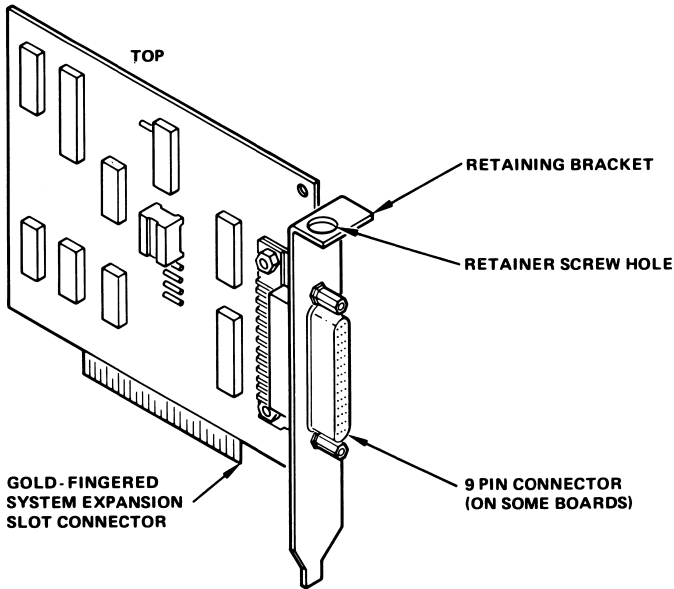

Figure 5-12. Side View of an Interface Card
3. The interface card has a retaining bracket similar to the expansion slot cover. The board can only be inserted one way. The retaining bracket fits in the same way as the expansion slot cover. Refer to Figure 5-12.